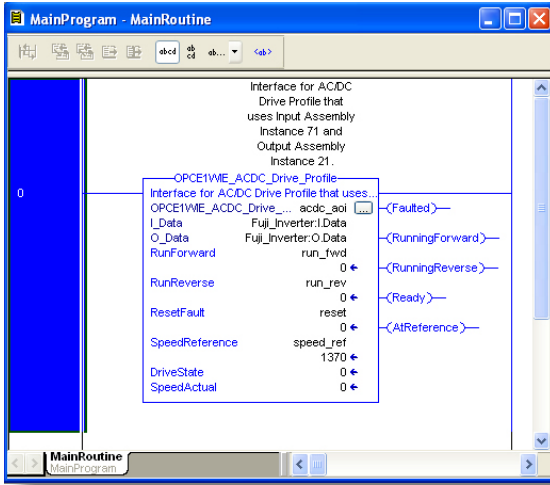

Figure 100: Configure AC/DC Drive Profile AOI
10) Edit the add-on instruction according to Figure 100.